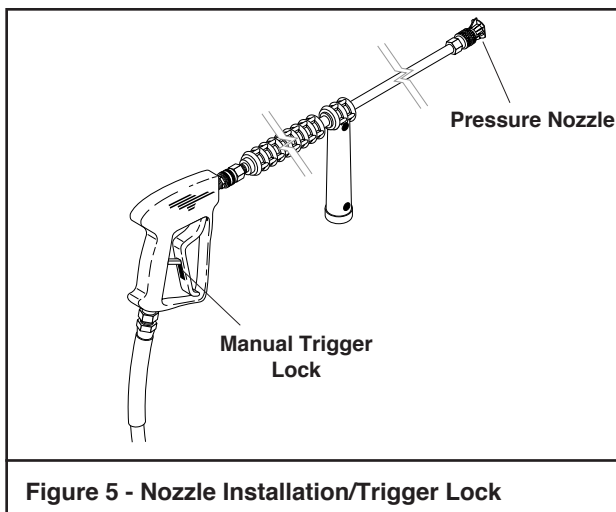

Figure 5 - Nozzle Installation/Trigger Lock
1. Install the proper pressure nozzle for your cleaning needs on the end of the wand. Refer to **Figure 5**.
IMPORTANT: The trigger gun provided with this pressure washer is equipped with a manual trigger lock to prevent accidental operation of the trigger gun; refer to Figure 5. The trigger lock should be used whenever the trigger gun is not in use.